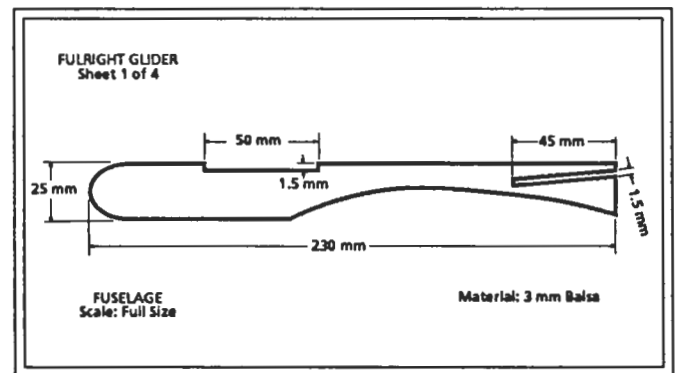

Figure 6 - Drawing with Basic Dimensions
6. Add basic overall dimensions with extension lines and dimensions as shown in Figure 6.